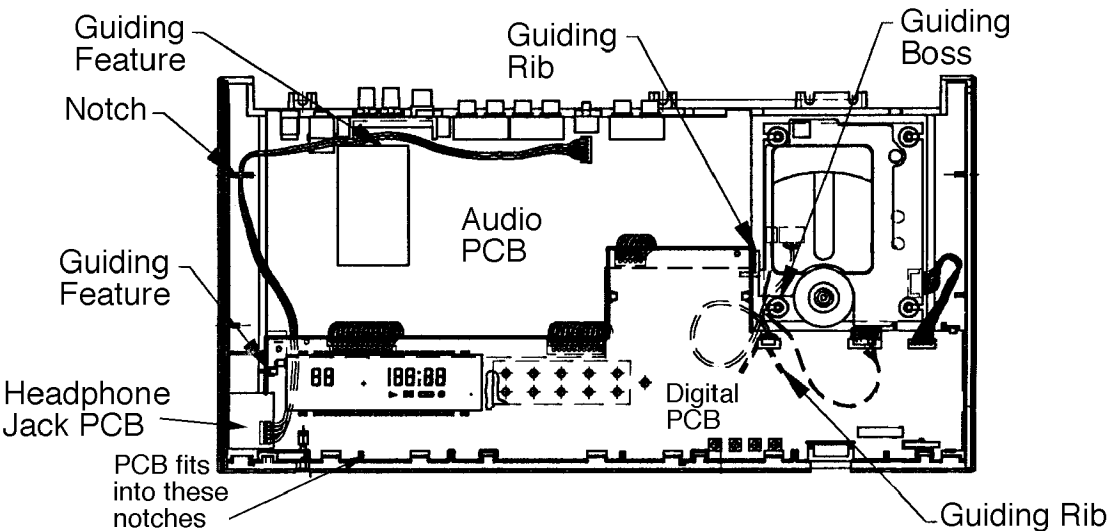

Figure 7. Base Assembly (top view with covers removed)
Note: The CD mechanism wires must be routed correctly (see Figure 7) for proper CD operation. A sign of improper routing is a clicking noise when playing tracks at the outermost edge of the CD. Perform the CD Final Verification tests on page 31 to ensure proper operation.
8.2 Slide the PCB (10) into position. There are notches in the PCB which mate with notches in the base (19). See Figure 7.
Note: Make sure that the connections to the Headphone Jack PCB (10) are routed through the guiding notch on the side of the console (see Figure 7).
10.3 Snap the PCB (10) carefully down under the four locking tabs. Make sure that the CD mechanism connections are routed properly. See Figure 7 and procedure 6 note.